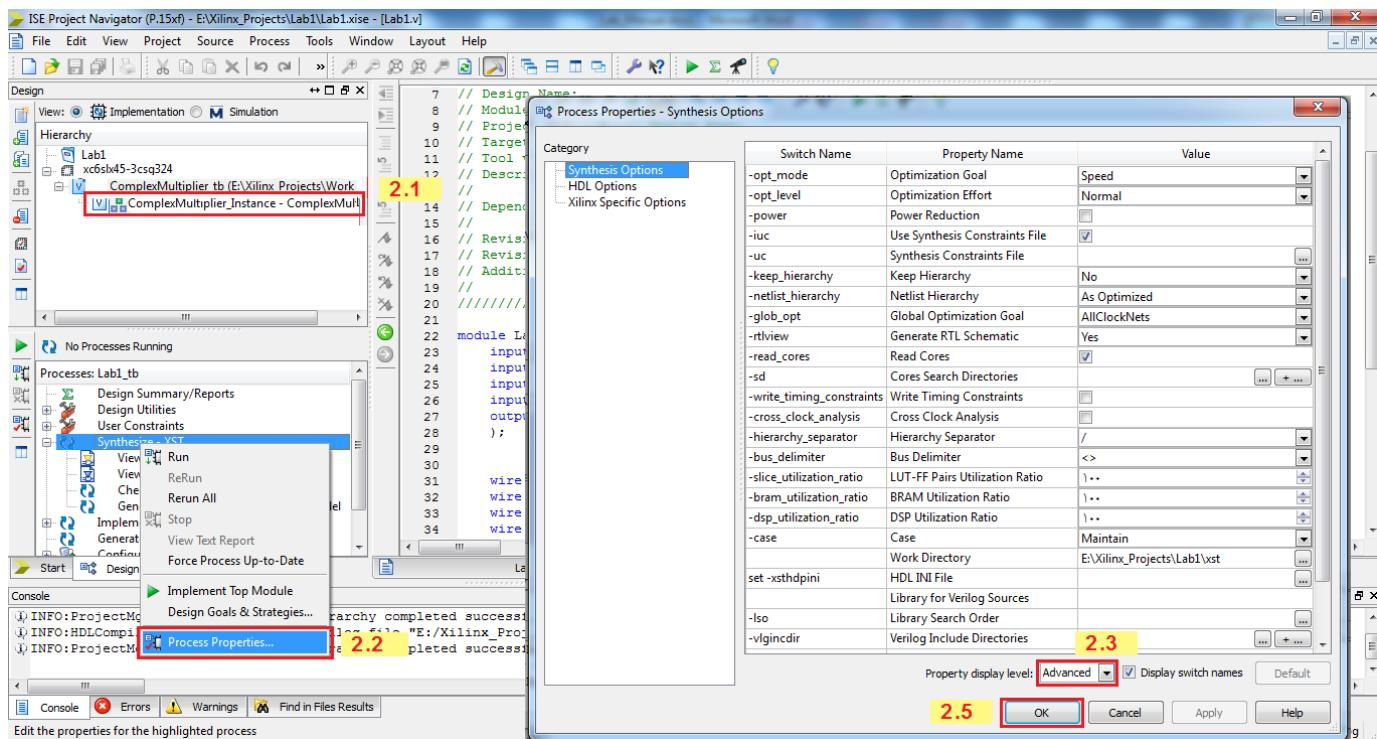

Figure 12.
2. Entering Synthesis Options (Figure 12)